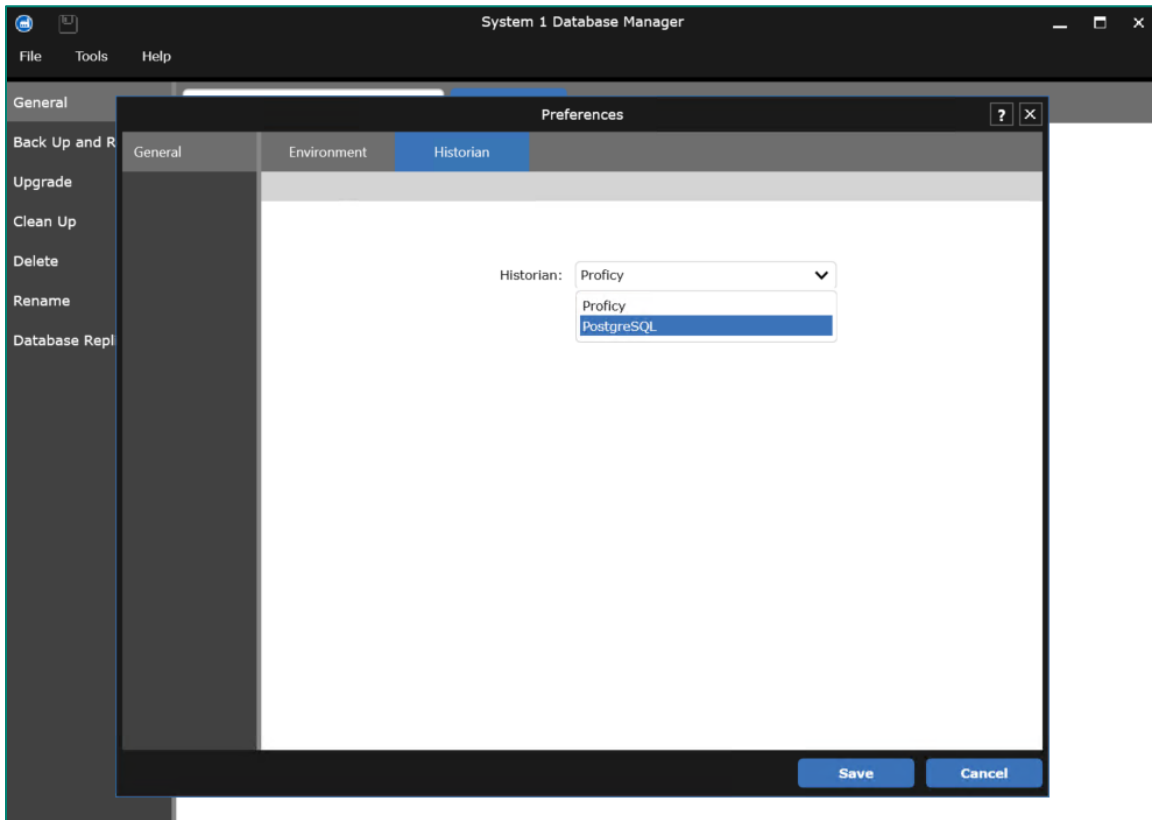

Figure 5: Changing Default Historian in Database Manager
- In Historian Tab, select **PostgreSQL** from Historian dropdown dialog (Figure 5)